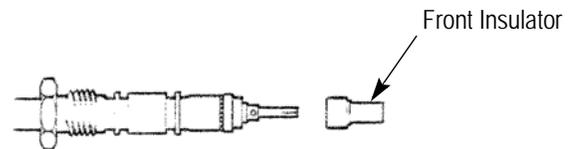

Figure 8
1. Fit the front insulator over the contact until it butts against the internal shoulder as shown in Figure 8.